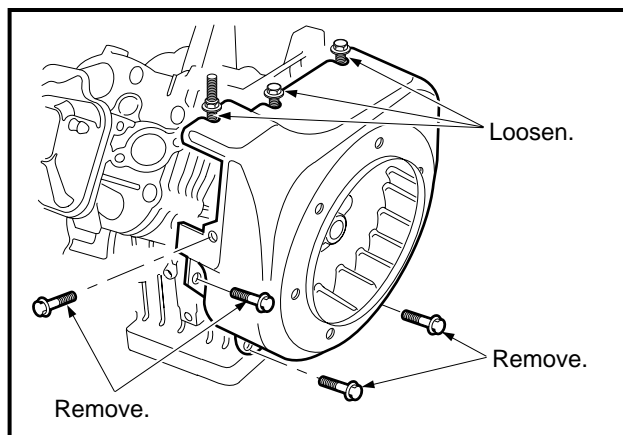

Figure 13-61 Flywheel Housing
- Loosen three screws and remove the remaining four screws attaching the flywheel housing as shown, then remove the housing (**Figure 13-61, Page 13-31**).